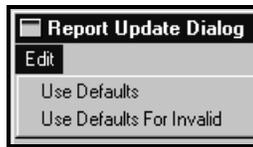

Figure 3-77. Report Update Dialog - Edit Menu
As shown in Figure 3-77, the **Report Update** dialog has one (1) menu named **Edit**, which contains two (2) selections. They are: **Use Defaults** and **Use Defaults For Invalid**.
**Introduction:** There are three (3) types of report entries: the *initial* entry, the *modified* entry, and the *default* entry. The *initial* entry comes from the currently selected row in the report being modified. When the **Report Update** dialog is activated, the *modified* entry is set equal to the *initial* entry. The *modified* entry is the one whose values are displayed and will be used for a global edit. Whenever **OK** is clicked, the *modified* entry is stored as the new *default* entry. As any of the fields are changed on **Report Update** dialog, the small button beside each field name turns green and appears depressed for any value that differs from the *initial* value. For example, if the **Site** field contains *DEF* and it's changed to *ABC*, the small button beside the **Site** field turns green and appears depressed. If **OK** is clicked, *ABC* is then stored as the new *default* entry for the **Site** code.